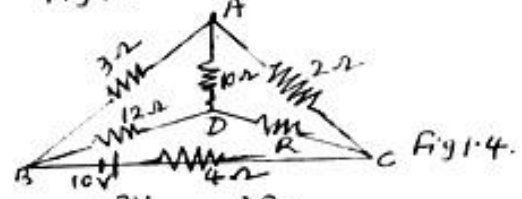

Fig 1.4
8. Find the value of R & current through it, in fig.1.4. , when branch AD carries no current.